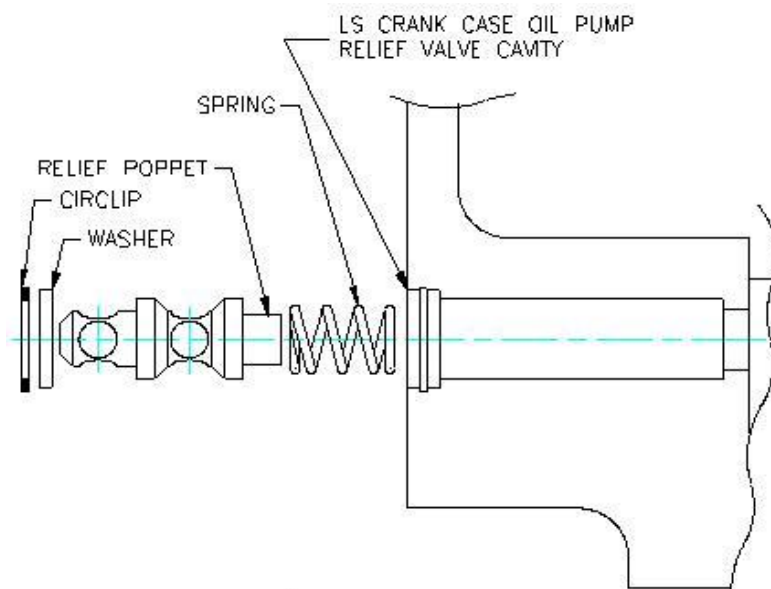

Figure 198 – Oil Pressure Relief Valve Assembly
- Fit the components of the valve as shown in Figure 198. Ensure the circlip is fitted with the flat face outwards and the curved face inwards – and that it “snaps” into position clearly when fitting.